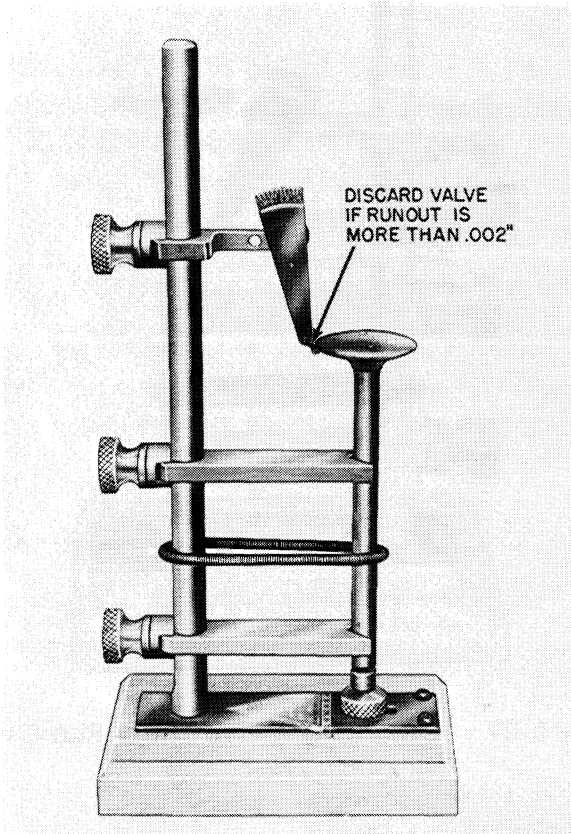

Figure 21 - Checking Valve Face Run Out
1. Check refaced valve with a V-block type of gauge. Figure 21.